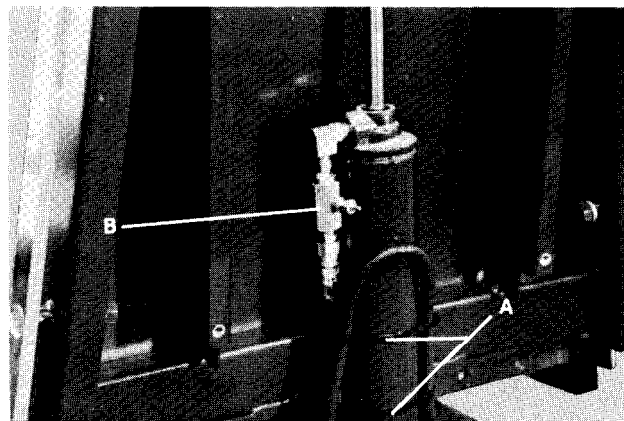

Fig. 25
There is a needle valve on the rod end of the back cylinder to regulate extension and retraction speed of this function only, Item B, Fig. 25. This needle valve is set and locked into place at the factory and should not need adjustment. Should it ever become necessary to adjust the speed of the back cylinder, use the following procedure.
- 4) Remove (2) large nylon ties from cylinder, item "A", Fig. 25.
- 5) Remove the (2) Hose Fittings from the defective cylinder using 9/16" and 7/16" wrenches. A 9/16" wrench should be used to remove the needle valve assembly from the rod end port of the defective cylinder, Item B, Fig. 25.
- 9) Connect hose fittings tightly to new cylinder. Install needle valve in port on rod end of cylinder, Item B, Fig. 25. Position valve parallel with cylinder body. (Valve stem should point away from table back). Lay solenoid electric cord along side of hoses.
- 10) Install (2) Nylon Ties, Item "A", Fig. 25 on the cylinder.